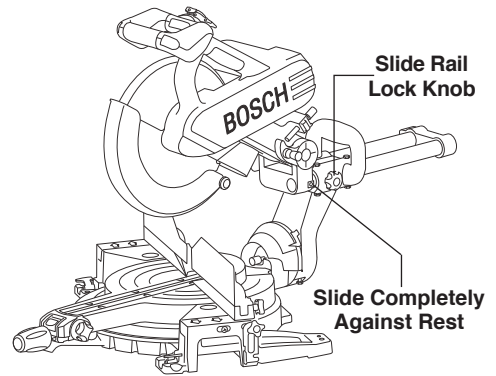

Figure 30. Chop Cut
1. Slide the head assembly to the rear as far as it will go (Figure 30).
2. Tighten the slide rail lock knob (Figure 30).